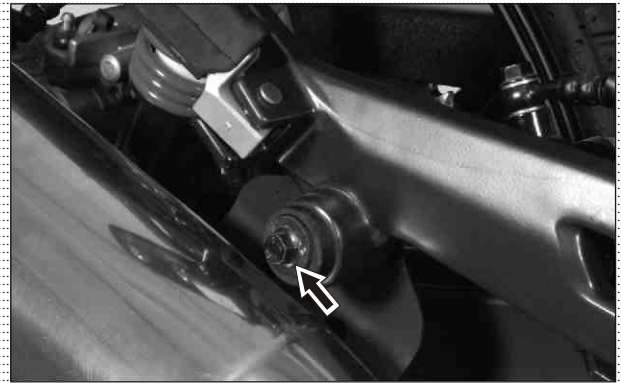

Fig. 3.38
- Remove hexagonal bolt (M8x60 - 1 no) from the muffler assembly rear mounting along with punched washers and 'U' nut. (Fig. 3.38)